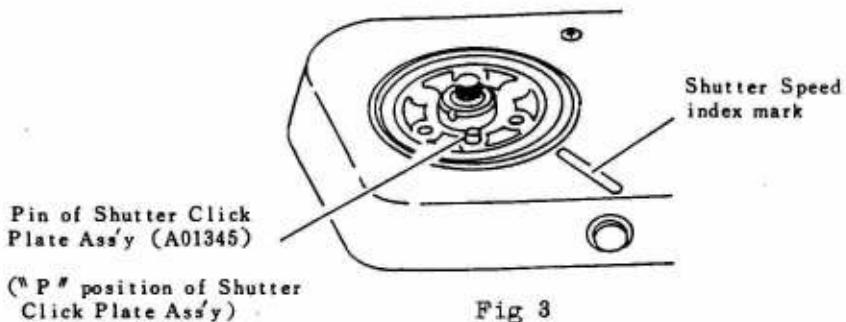

Fig 3
- a) Set the "P" position of Shutter Click Plate Ass'y (A01345) as shown in (Fig 3) and the "P" letter of S. Dial Ass'y (A01365) aligns with the Shutter Speed index mark.